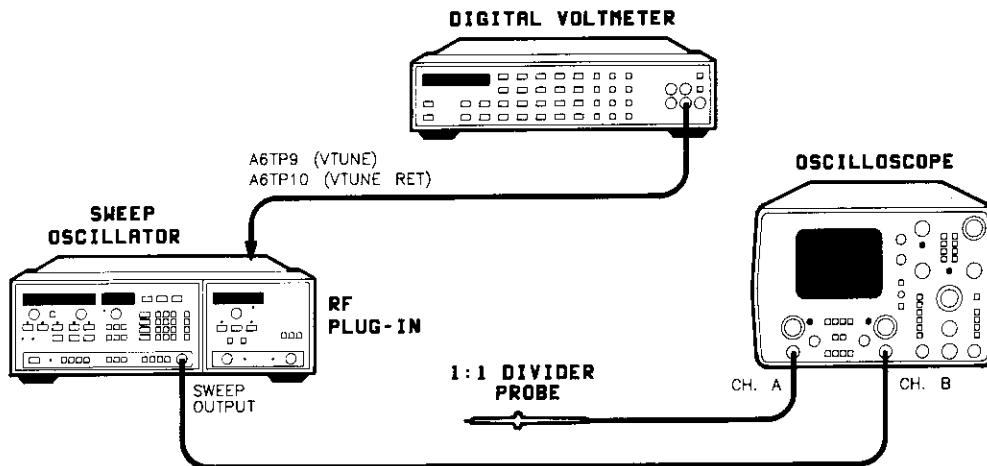

Figure 5-2. Sweep Control Adjustments Test Setup
2. Set up the equipment as shown in Figure 5-2 with the DVM HI connected to A6TP9 (V TUNE) and DVM LO connected to A6TP10 (V TUNE RET). See Figure 5-3 for test point location. Do not connect the oscilloscope probe yet. Allow the instrument to warm up for 1 hour.